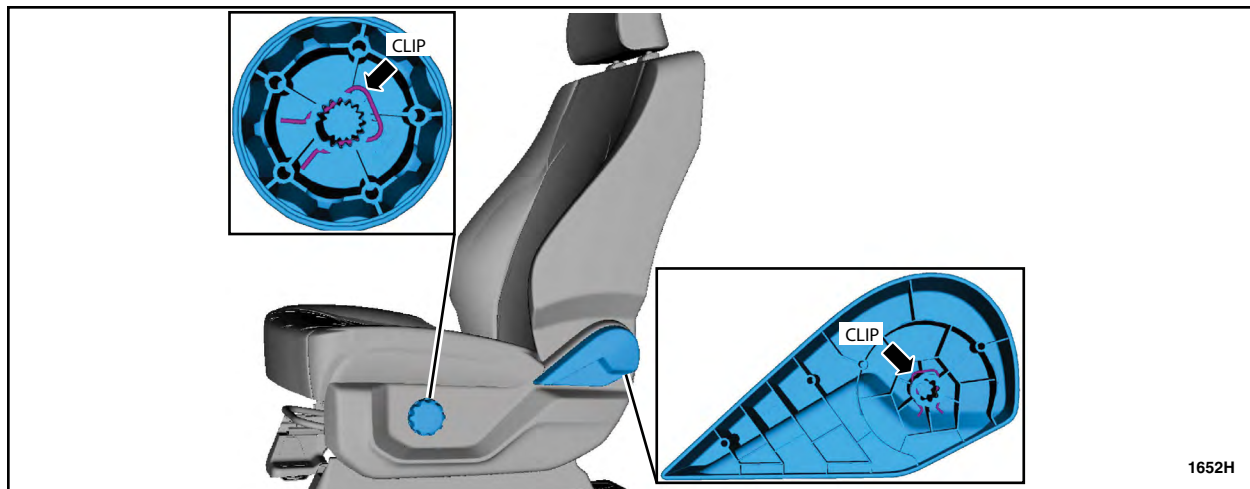

FIGURE 1
2. Remove the recline handle and lumbar knob (if equipped). See Figure 1.